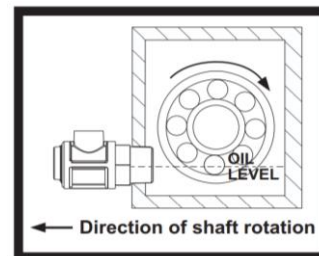

Fig. 1
- 1 Prior to installing the Watchdog Oiler, shaft rotation direction must be determined, typically indicated by an arrow on the casting of the equipment. Install oiler on the side of the equipment facing the direction of shaft rotation to prevent misfeeding of the Watchdog Oiler (see Fig 1).
- 5 Hand tighten Watchdog in a port where the centerline of the main body is at the optimum fluid level (Fig. 1).